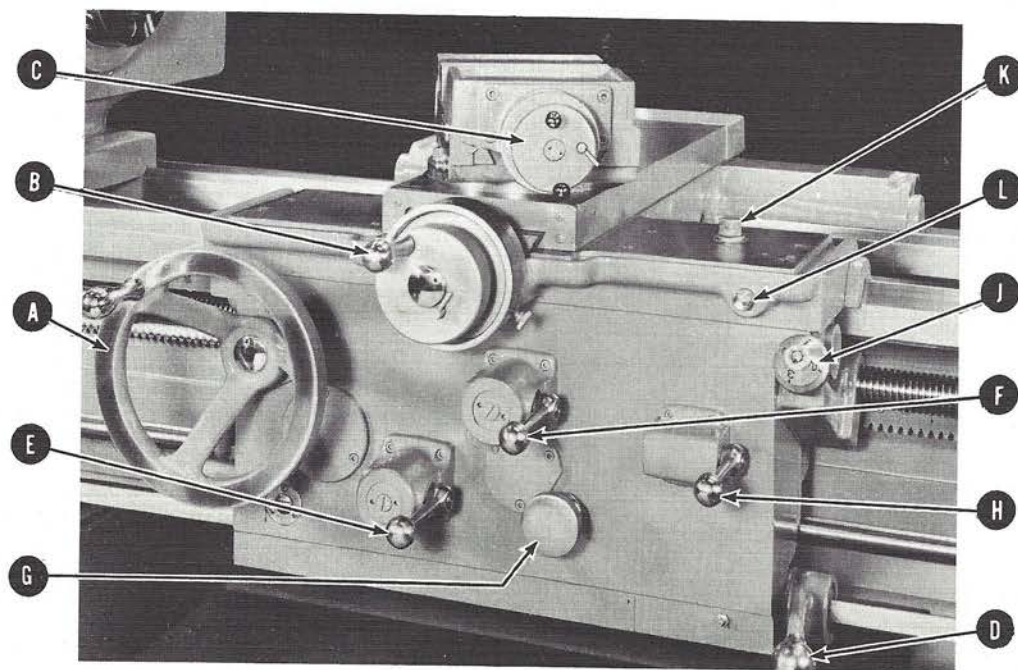

FIGURE 5 FRONT OF APRON, CARRIAGE AND COMPOUND REST
Figure 5 indicates the functions of the various controls provided to impart the necessary movements to the cutting tool. (A), the apron handwheel, moves the cutting tool manually parallel to the bed. Cross slide handwheel, (B), moves the tool manually at a right angle to the bed. Compound rest handwheel (C) moves the tool manually at any angle to the bed.
Socket (G) is engaged by the carriage plunger (L) (Fig. 5) for transporting the tailstock. Conveyor mechanism (H) is also used for transporting the tailstock.